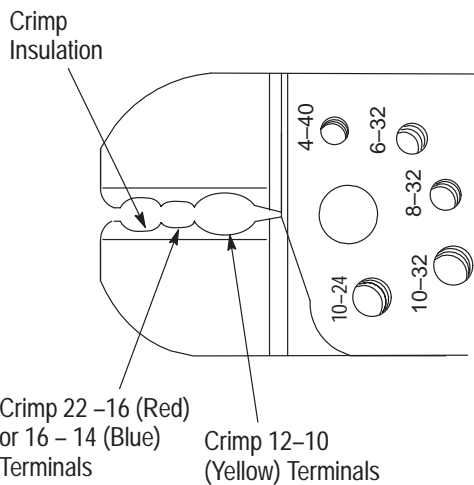

Figure 4
3. Place the terminal/splice in the appropriate position of the crimping tool. See Figure 4.